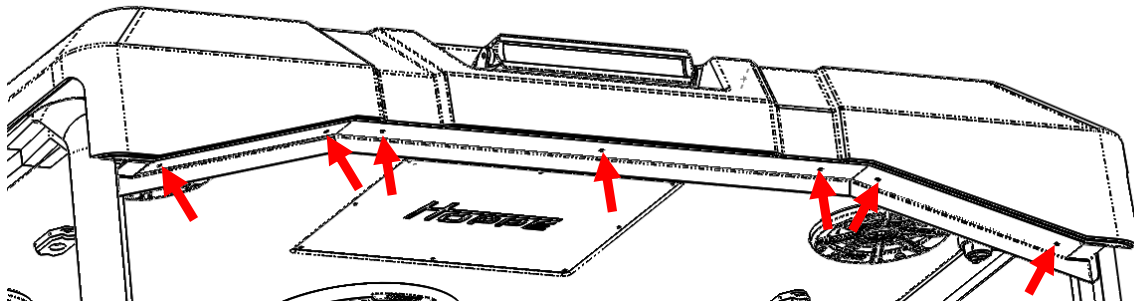

Figure 20: With the bracket in position, secure it to the roof.
2. Use masking tape to temporarily hold the bracket in position as shown in Figure 20.